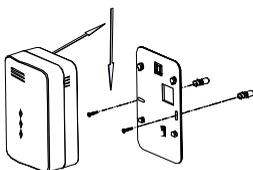

Figure B- 45: Securing the Detector
3. Using a 5 mm (3/16-inch) drill bit, drill two holes at the marks and insert wall plugs (Figure B- 45).
7. Line up the side slot of the bracket and the detector. Push the detector onto the mounting bracket until a click is heard (see arrow direction, Figure B- 45).